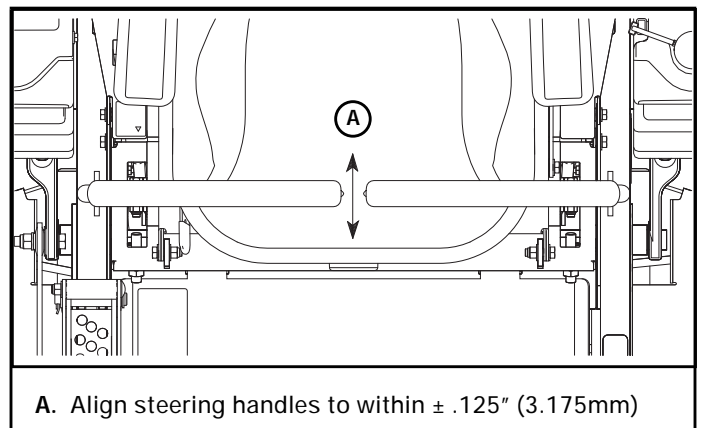

Figure 6-9
- Adjust the steering control levers so that they align with each other when in the neutral position. Figure 6-9